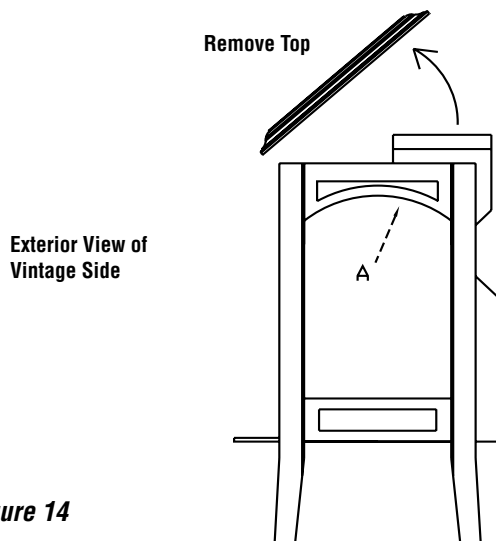
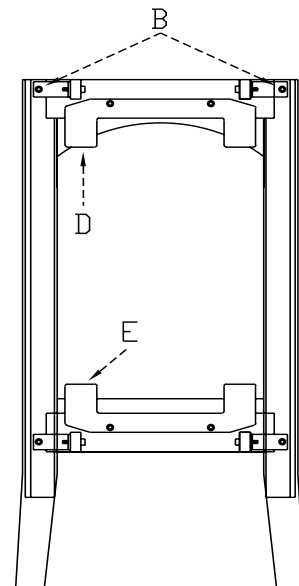

Figure 14
Figure 17
2. Remove the cast iron upper piece A - see Figure 14. Complete this step by unscrewing the (2) 5/32 hex-head screws labeled B in Figure 17. Lift out the upper cast piece A with the retaining bracket D attached.